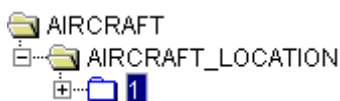

Figure 140 : New system created in the library
- ◆ When the new system is created, it is automatically inserted in the library by alphabetical order (Figure 140), and it is automatically edited.